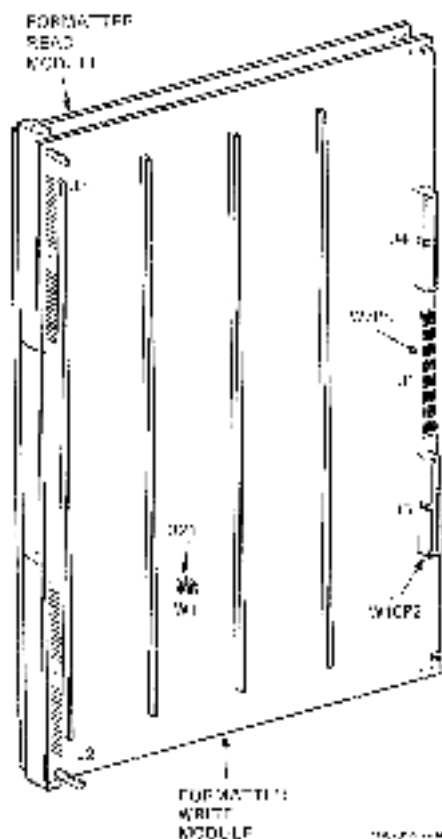

Figure 4-29 Formatter Write Module
5. Secure the formatter write module to the formatter read and interface modules using the thumbscrews as shown in Figure 4-29.